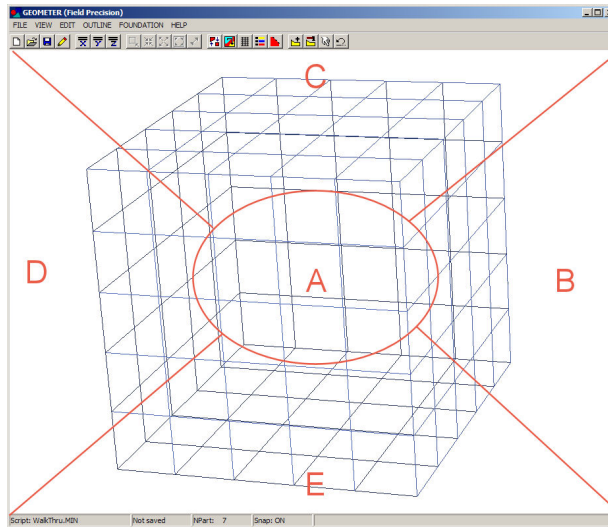

Figure 24: Active areas for mouse control of the 3D view.
The method to control the three-dimensional display with the mouse is identical to that used in **MetaMesh**. Figure 24 shows the active areas of the screen. The central zone (A) is used for zooming in (left button) and out (right button). Hold down the left mouse button in zones B, C, D and E to walk around the object. Hold down the right mouse button in zones B, C, D and E to move the viewpoint to the right, upward, to the left and downward. Note that changes are reflected in the orientation box in the upper-right portion of the screen. The plot is updated when you release the mouse button. You can control additional aspects of the three-dimensional view with the commands of the *Adjust view* popup menu.